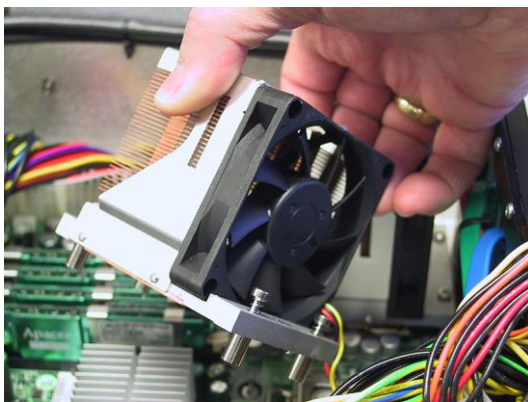

Figure 5-81
- 3) Gently lift the cooling fan assembly away from the chassis as illustrated in Figure 5-81.